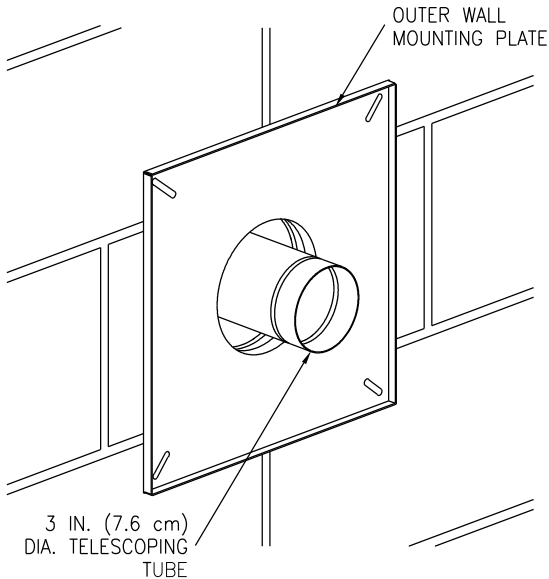

Figure 9
- From outside the building, slide the five (5) inch (12.7 cm) diameter telescopic tube through the opening in the wall until the outer wall mount plate is flush with the wall (See Figure 9).